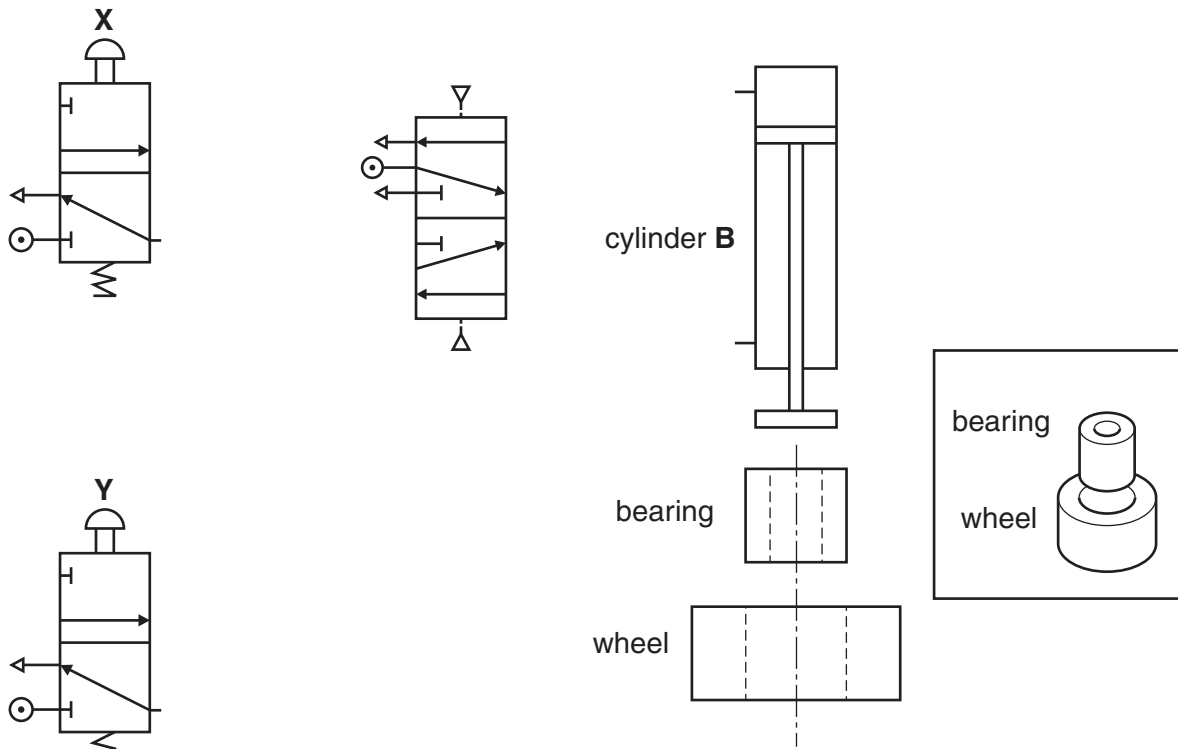

Fig. 2
2 Fig. 2 shows the pneumatic components for part of the prototype bearing press.
(a) Draw the connecting lines on Fig. 2 to:
(b) When the circuit in Fig. 2 was tested, the bearing could not be pushed in completely. Give **two** ways by which the problem could be solved.
- (c) Cylinder **B** in Fig. 2 could be replaced with a single acting cylinder. Draw the component symbol for a single acting cylinder.
- (d) Explain how the circuit in Fig. 2 could be simplified by using a single acting cylinder in place of cylinder **B**.